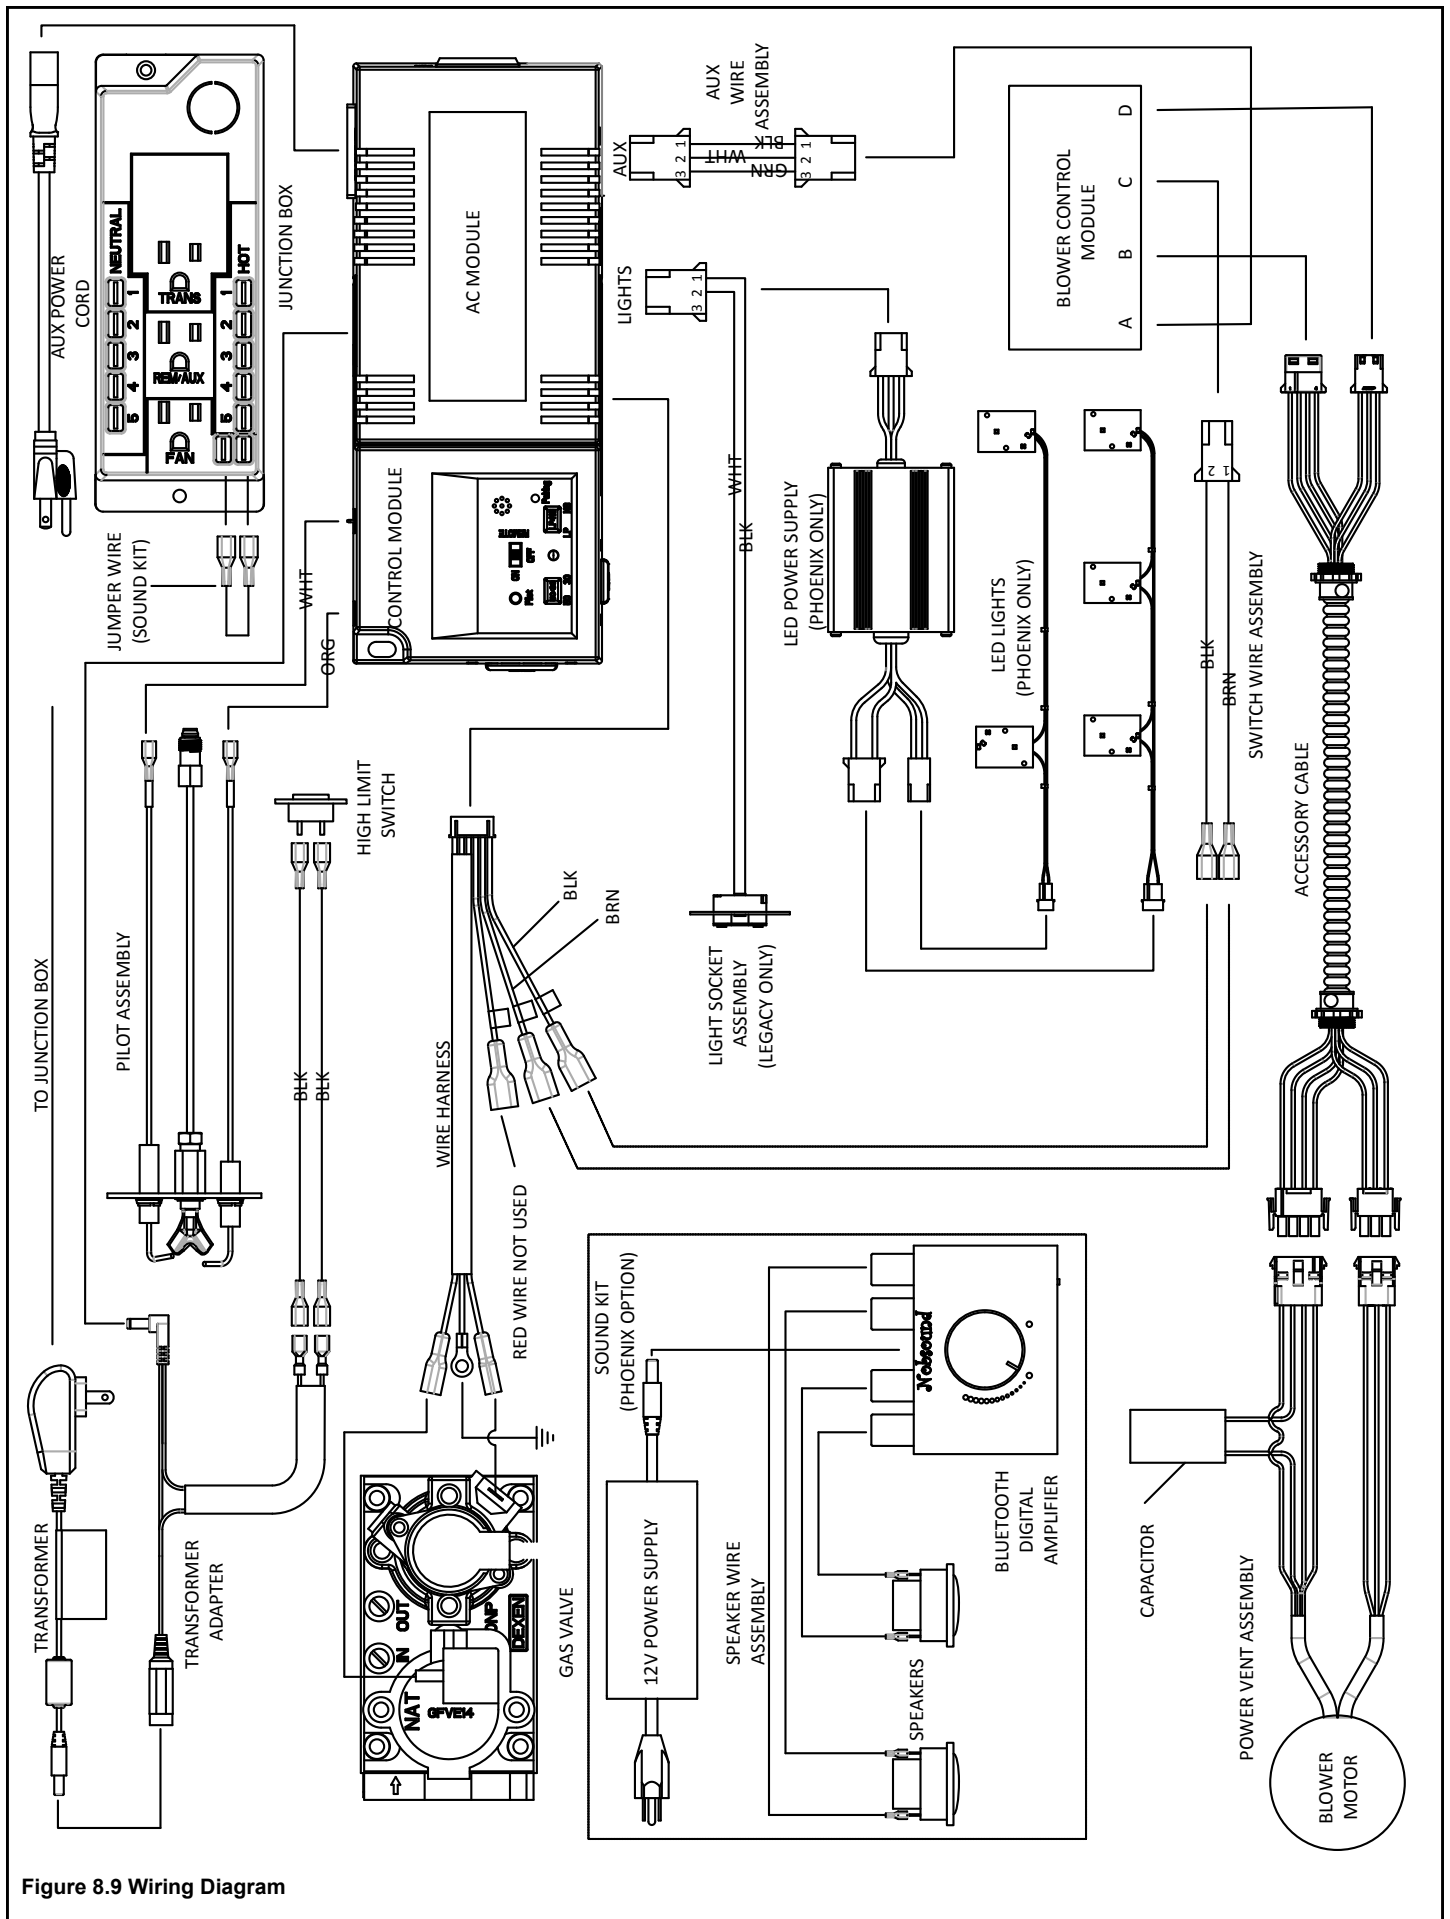

Figure 8.9 Wiring Diagram
- Refer to Figure 8.9, LEGACY Wiring Diagram.